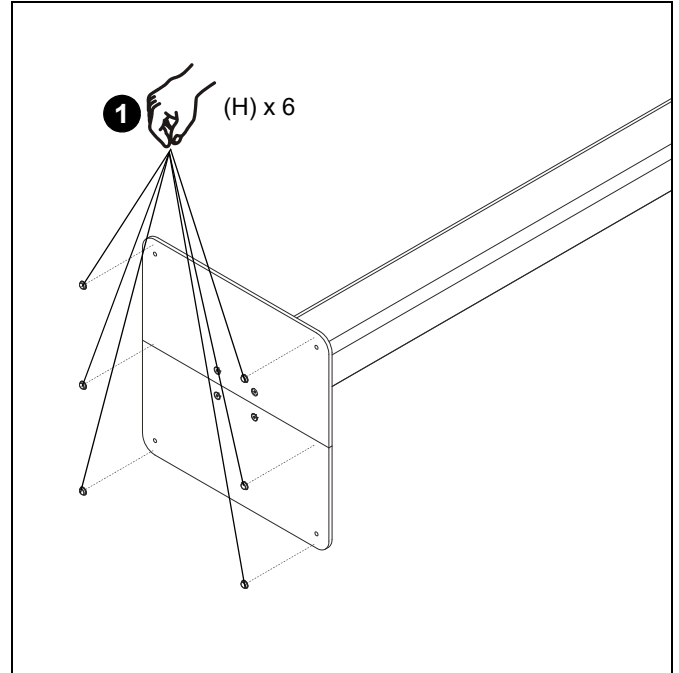

Figure 10
**NOTE:** Up to six rubber feet (P) may be installed to bottom of base for increased stability.
1. Remove adhesive from behind rubber feet (P) and install feet on underside of base. (See Figure 10)